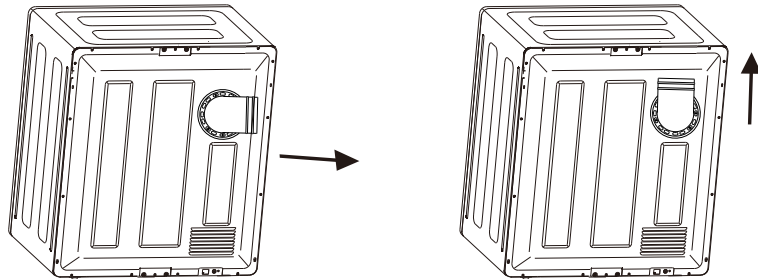

Fig.8
6. To install the Exhaust Connector, push the Exhaust Connector into the Exhaust Vent at the back of the Tumble Dryer with the Exhaust Outlet in the direction required, as illustrated in (Fig.8).